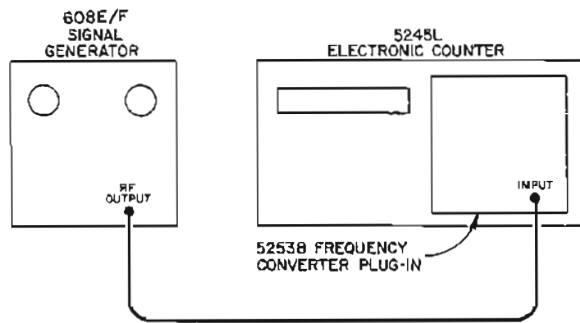

Figure 5-3. Frequency Accuracy and Resettability Test Setup
- a. Connect signal generator in test setup illustrated in Figure 5-3.